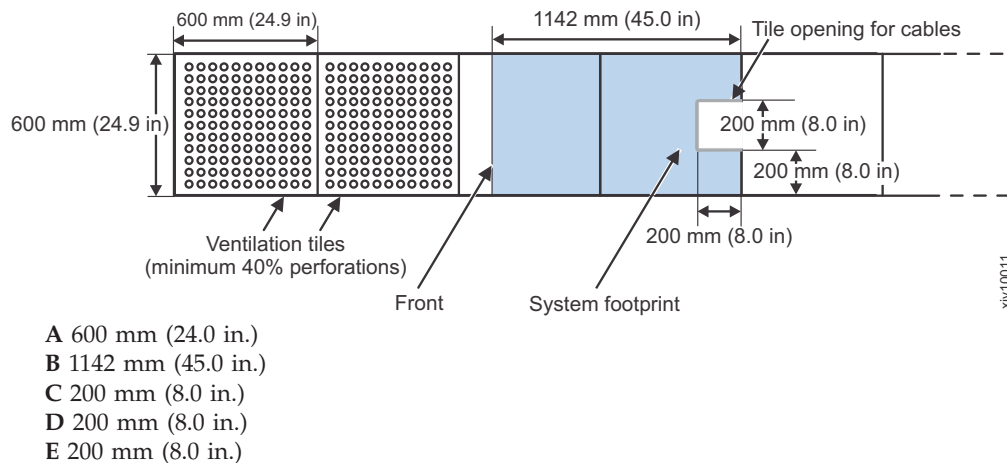

Figure 4. Raised floor requirements
When the system is placed on a raised floor with 60 cm × 60 cm (24 in. × 24 in.) tiles, use the following guidelines as shown in Figure 4 on page 20:
- Make a 200 mm × 200 mm (8 in. × 8 in.) opening for cabling and electricity in the back tile, as shown in Figure 4 on page 20.